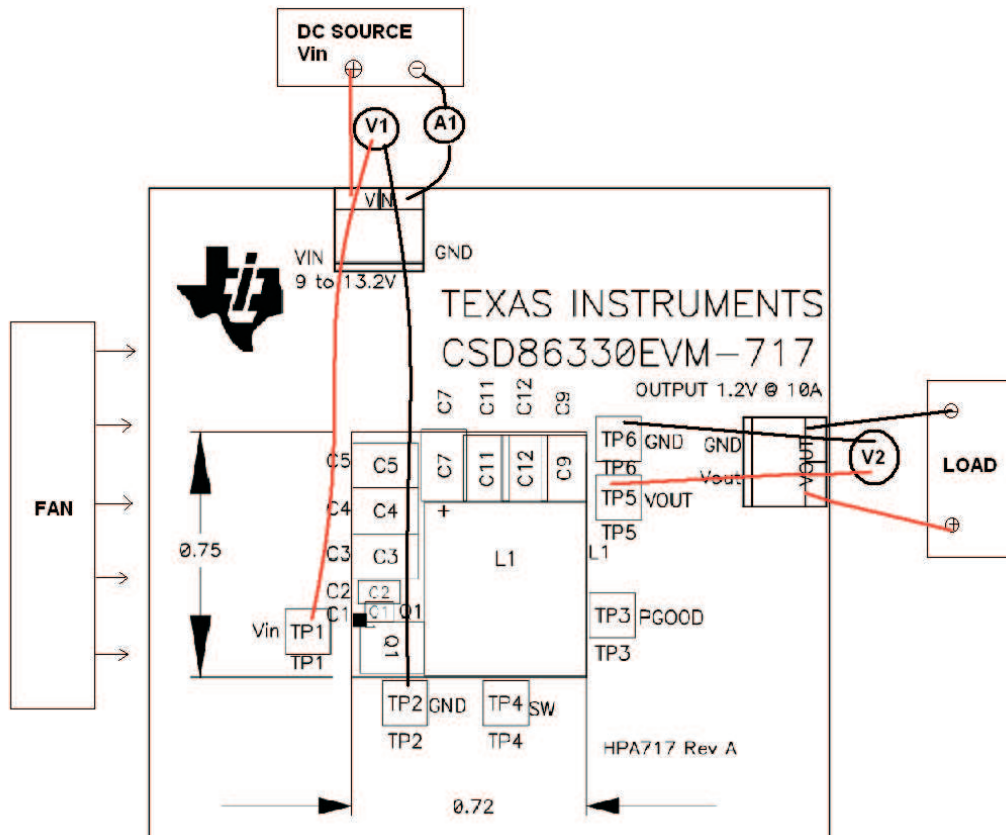

Figure 3. CSD86330EVM-717 Recommended Test Set Up
**Voltage Source:** The input voltage source  $V_{IN}$  should be a 0-V to 13.2-V variable DC source capable of supplying 4 ADC. Connect  $V_{IN}$  to board as shown in Figure 3.
Figure 3 is the recommended test set up to evaluate the CSD86330EVM-717. Working at an ESD workstation, make sure that any wrist straps, bootstraps or mats are connected referencing the user to earth ground before power is applied to the EVM.
- Prior to connecting the DC input source  $V_{IN}$ , it is advisable to limit the source current from  $V_{IN}$  to 10 A maximum. Make sure  $V_{IN}$  is initially set to 0 V and connected as shown in Figure 3.
**Other Connections:** Place a fan as shown in Figure 3 and turn on, making sure air is flowing across the EVM.
1. Set up the EVM as described in Section 5 and Figure 3.